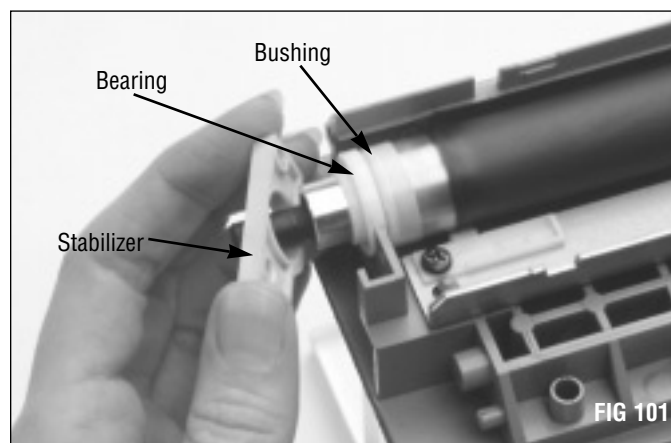

FIG 101
14. Install the left mag roller bushing, bearing and stabilizer in that order on the left end of the hopper (FIG 101). Inspect the Mag Roller Bushing (WXMRBUSH) and replace if the bushing is cracked or shows signs of excessive wear.